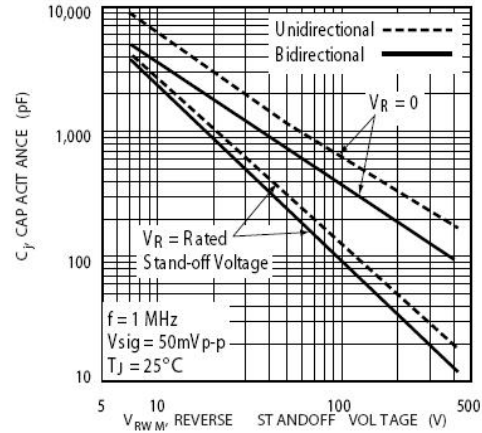
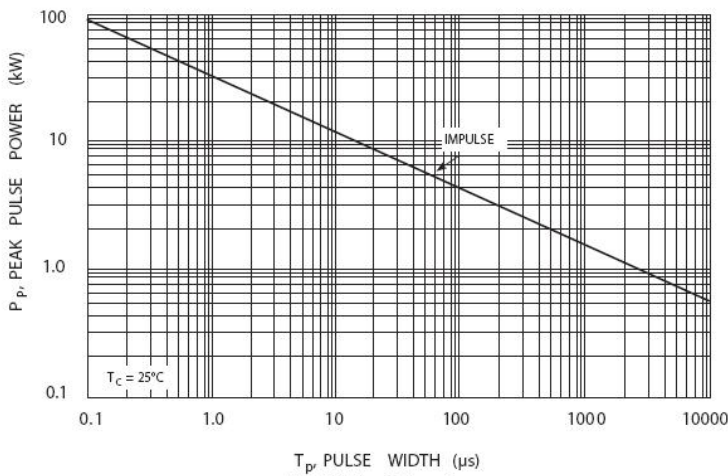

Fig. 2 Typical Junction Capacitance
Fig. 3 Pulse Rating Curve
1. Non-repetitive current pulse, per Fig. 3 and derated above T_A = 25°C per Fig. 2.